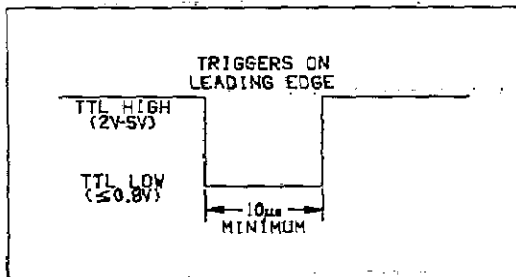

FIG 1. External Trigger Pulse Specifications
2. Input an appropriate trigger pulse source (see FIG 1) to the EXTERNAL TRIGGER INPUT.